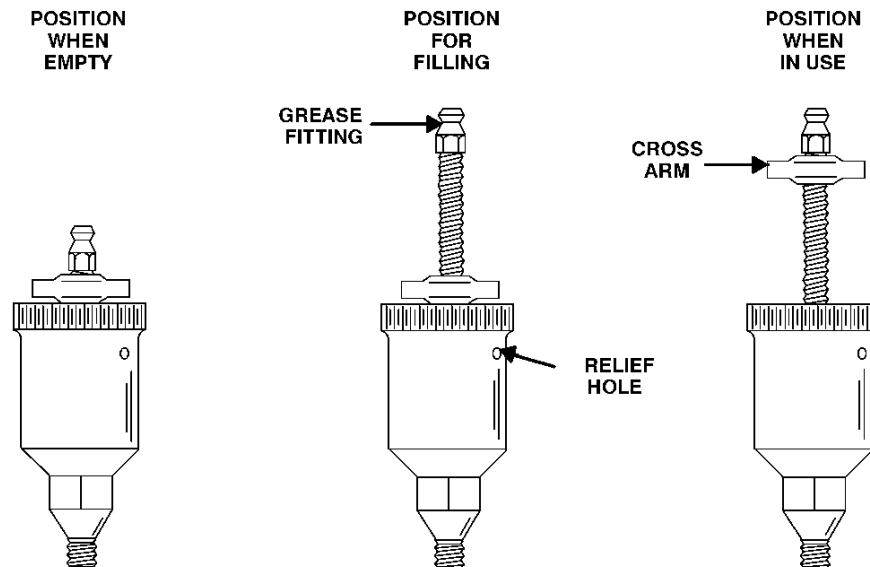

Figure 4. Automatic Lubricating Grease Cup
Before removing the impeller, turn the cross arm on the automatic grease cup (11) clockwise until it rest against the cover (see Figure 4). This will prevent the grease from escaping when the impeller is removed. Remove the grease cup (11).
apes from the relief hole. Turn the grease cup arm counterclockwise until it is at the top of the stem; this will release the spring to apply grease to the seal (see Figure 4).